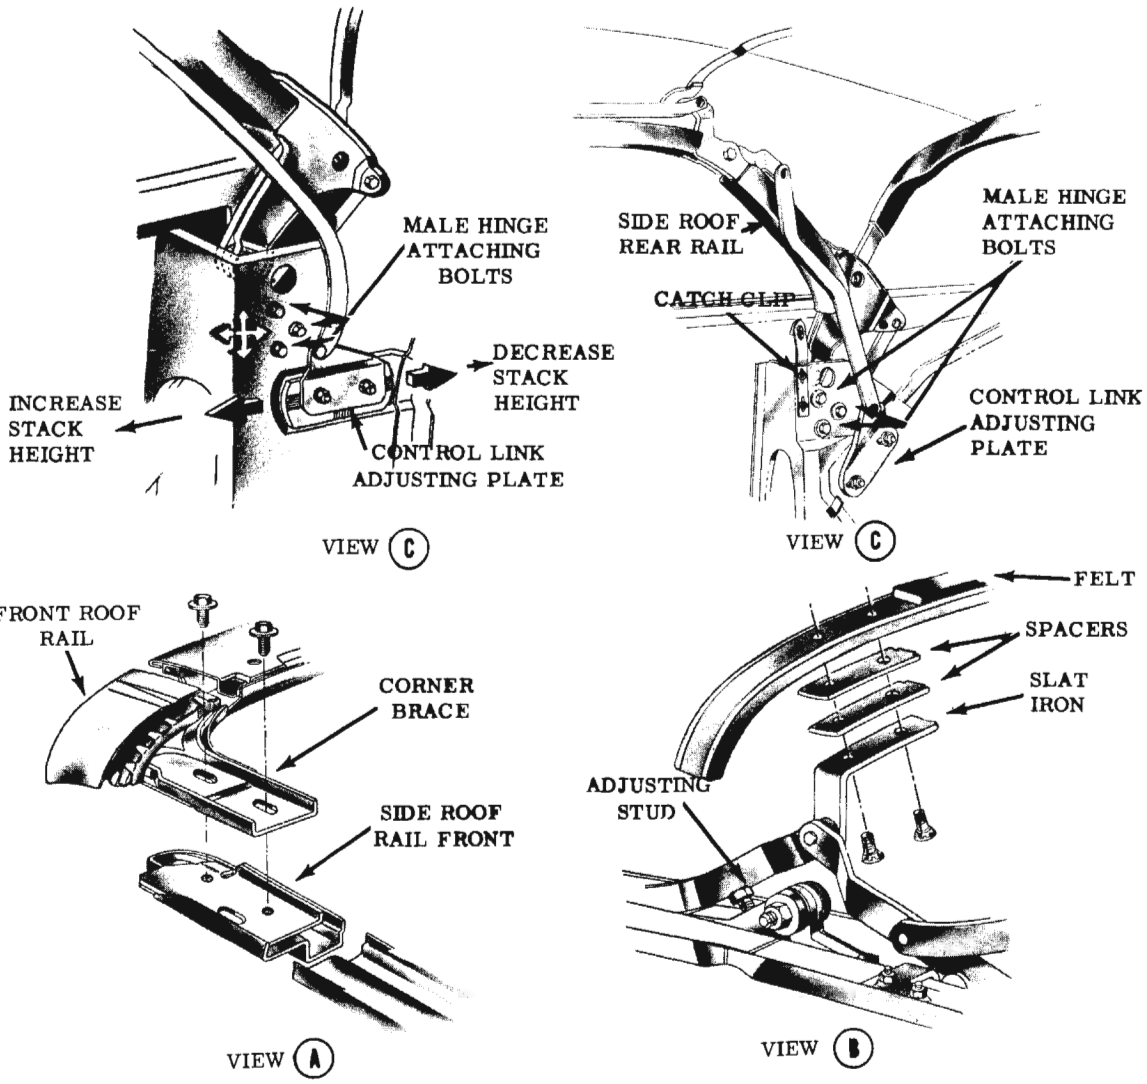

Fig. 16-338 Folding Top Adjustments
2. Loosen corner brace attaching bolts and adjust front roof rail fore or aft as required. Repeat on opposite side if necessary. (Fig. 16-338)
#### ADJUSTMENT OF TOP CONTROL LINK ADJUSTING PLATE (Fig. 16-338)
- b. Loosen three male hinge assembly attaching bolts. (Fig. 16-338)
- b. Loosen male hinge assembly attaching bolts. (Fig. 16-338)